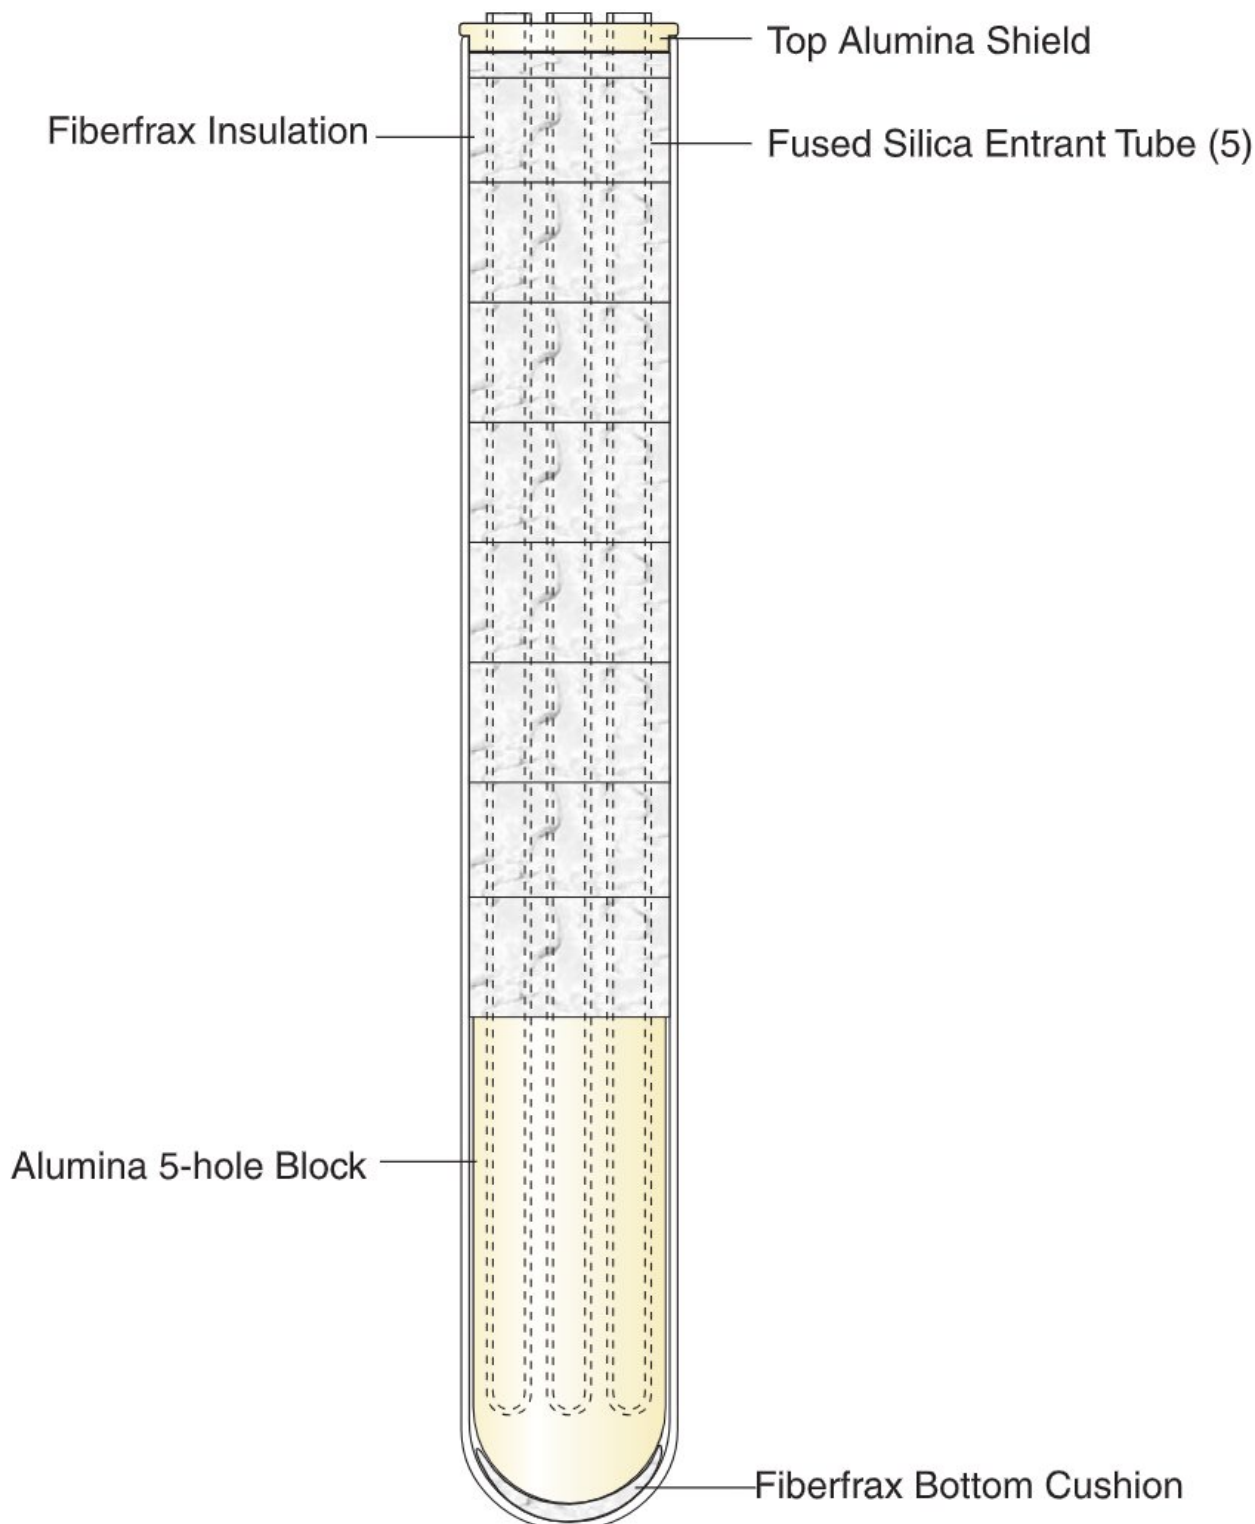

Figure 1 2129 Equilibration Block
8. Place the bottom Fiberfrax cushion in the large fused silica tube. (See Figure 1 for assembly detail.)